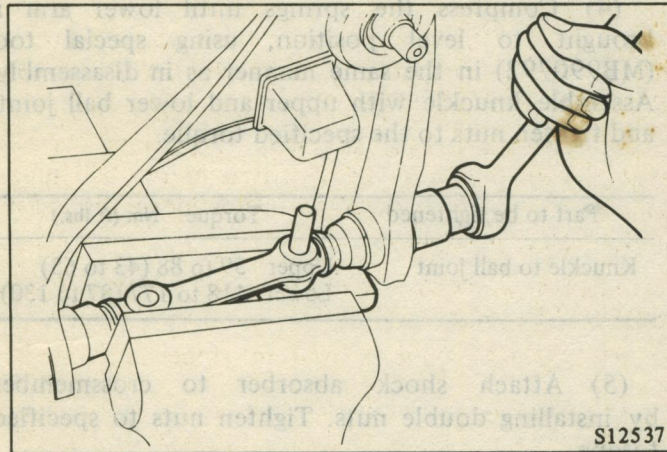

Fig. 27 Installing the Pivot Bushing
(9) Install the other pivot bushing to the other side of upper arm shaft. (Fig. 27)
(10) Make sure upper arm shaft moves smoothly.